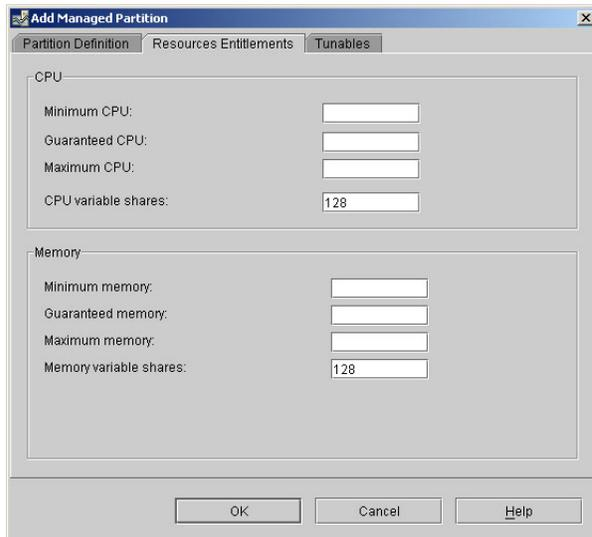
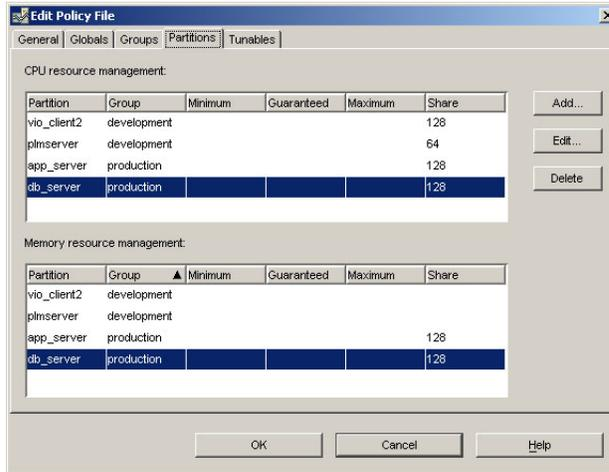

Figure 6-20 PLM wizard Resource Entitlements dialog
Figure 6-21 Edit Policy File partition summary window
4. Set the PLM shares for CPU and memory. For this group, both partitions will be symmetrical, each with the same weights (128 for both CPU and memory), as shown in Figure 6-20 and Figure 6-21 on page 410. Click on **OK**.